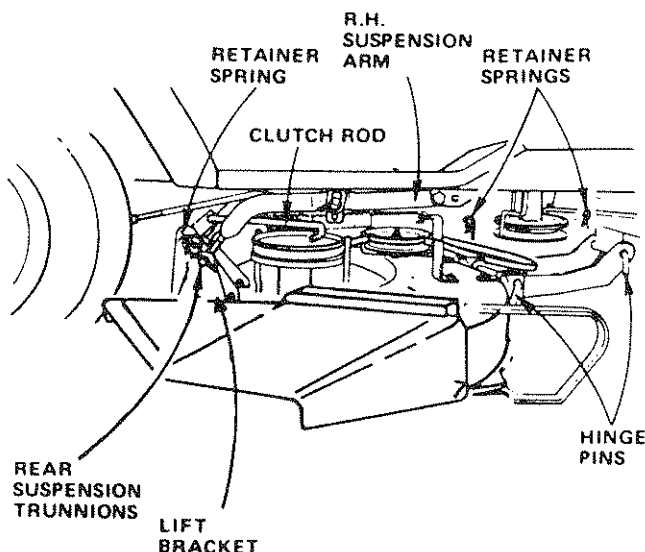
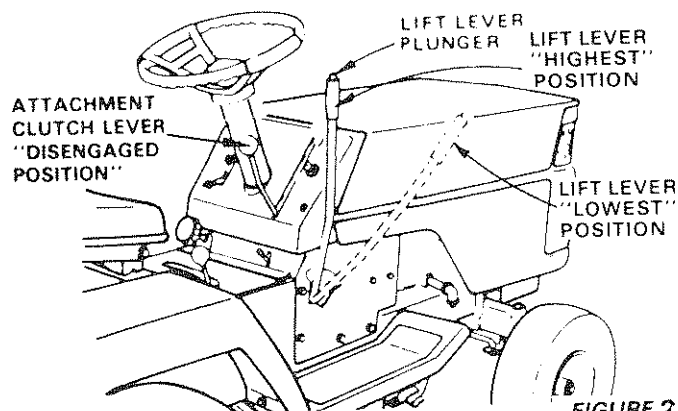
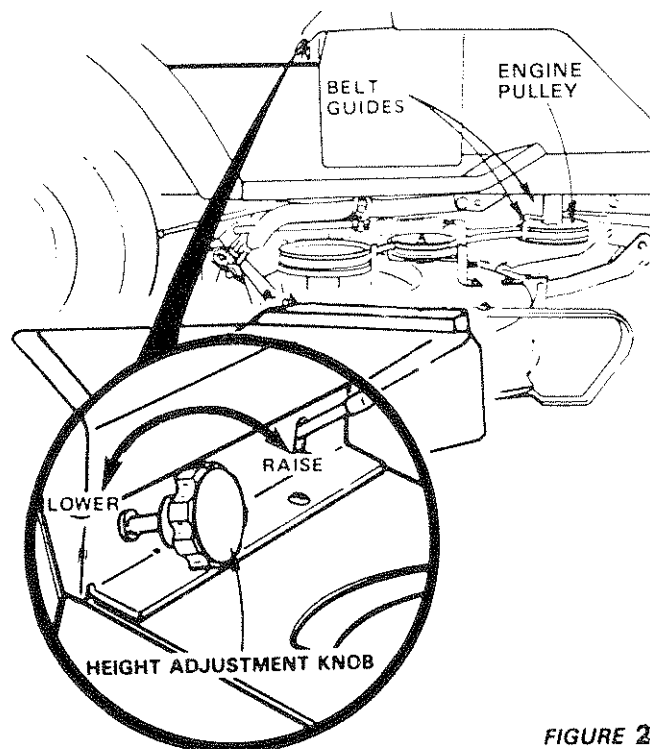

FIGURE 27
FIGURE 28
FIGURE 29
- Remove retainer spring from clutch rod; pull clutch rod out of clutch bracket. (Fig. 27)
- Pull retainer springs out of rear suspension trunnions. Remove rear suspension trunnions from lift brackets (Fig. 27).
- Pull retainer spring out of rear hinge pin. Remove rear hinge pin. (Fig. 27)
- Pull retainer spring out of front hinge pin. Remove front hinge pin (Fig. 27).
NOTE: IF AN ATTACHMENT OTHER THAN THE MOWER DECK IS TO BE MOUNTED ON THE TRACTOR, THE L.H. AND R.H. SUSPENSION ARMS (FIG. 27) SHOULD BE REMOVED FROM TRACTOR.
Your Mower installs without the use of tools. Raise Attachment Lift Lever (Fig. 28) to its highest position. Turn height adjustment knob to lowest position (Fig. 29).
- Move Attachment lift lever (Fig. 28) forward to lower suspension arms. Slide trunnions through lift bracket holes and secure with retainer springs (Fig. 27).
- Roll belt over engine pulley. Make sure belt is inside belt guides (Fig. 29). See belt drive schematic decal on mower housing.
- Use Attachment lift lever (Fig. 28) to raise mower.
- Turn height adjustment knob clockwise (↻) to the middle of its travel, or to desired cut height (Fig. 29).
- Place attachment clutch lever in "Disengaged" position (Fig. 29).
- Turn height adjustment knob to lowest position. Move Attachment lift lever (Fig. 28) forward to lower mower to its lowest position.
- Roll belt off engine pulley (Fig. 29).